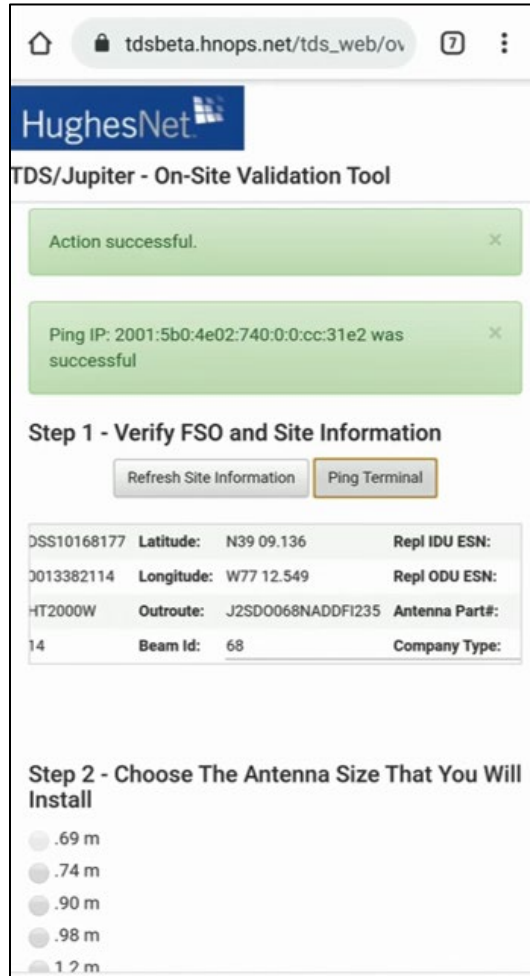

Figure 72: OVT ping successful
You will receive confirmation that the refresh was successful (see Figure 72).
3. Tap **Ping Terminal** (outlined in Figure 72).